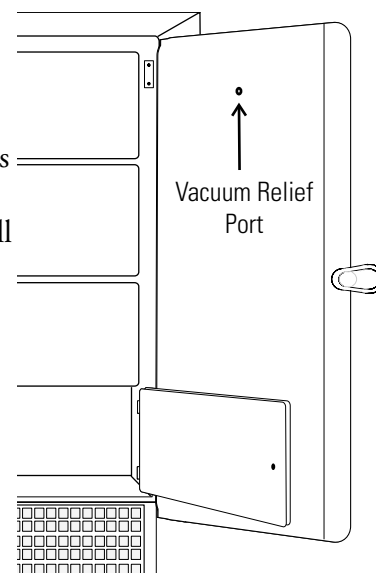

Figure 5-2. Port Location
6. Install the vent stack (Figure 5-2) through the opening and secure it to the top of the freezer, using screws.